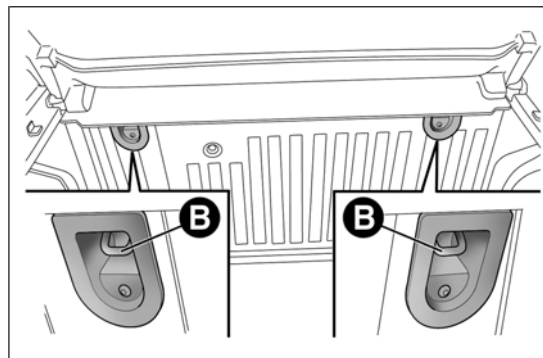

fig. 102
- ☐ fix the upper belt (available together with the seat) to the special attachments B fig. 102 located in the rear part of the backrest.